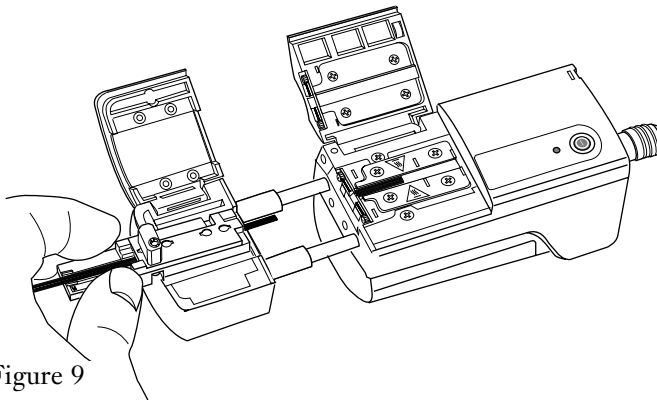

Figure 9
4.6 Open the flaps and remove the handler (Figure 9).